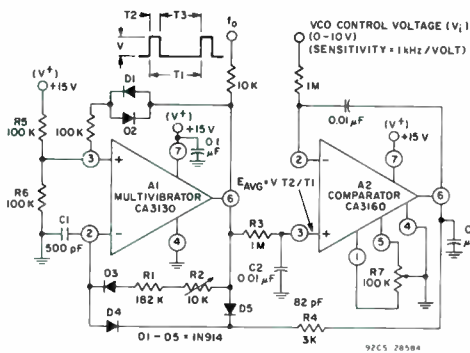

Fig.21 - Voltage-controlled oscillator.
The circuit diagram of a precision voltage-controlled oscillator is shown in Fig.21. The oscillator operates with a tracking error in the order of 0.02 percent and a temperature coefficient of 0.01%/°C. A multivibrator (A1) generates pulses of constant amplitude (V) and width (T2). Since the output (terminal 6) of A1 (a CA3130) can swing within about 10 millivolts of either supply-rail, the output pulse amplitude (V) is essentially equal to V+. The average output voltage ( $E_{avg} = V T_2/T_1$ ) is applied to the non-inverting input terminal of comparator A2 via an integrating network R3, C2. Comparator A2 operates to establish circuit conditions such that  $E_{avg} = V_1$ . This circuit